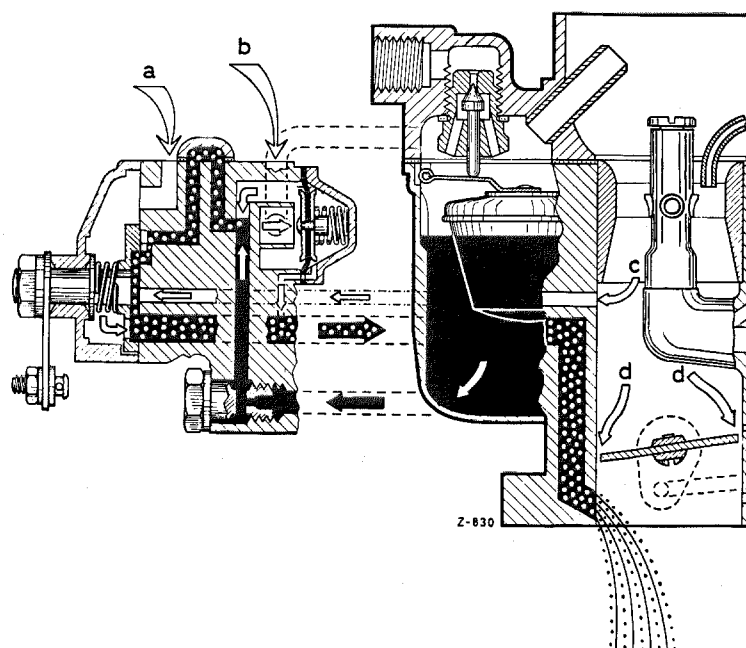

Fig. 07-0/5
As soon as the engine has warmed up a little, the starter knob can be pushed in halfway. As a result, the starter rotary slide valve is turned toward the right via the starter lever (22); the chamber (33) of the slide valve is now opposite the slot (39) of the starter flange (see Fig. 07-02). Since the chamber (33) is no longer connected with the fuel canal (4) by the bore (2), but only by the fine-graded bore (3), the amount of fuel admitted is greatly decreased and the start mixture is leaned out further. Fig. 07-0/5 shows the mode of action of the starter mechanism during warming-up.